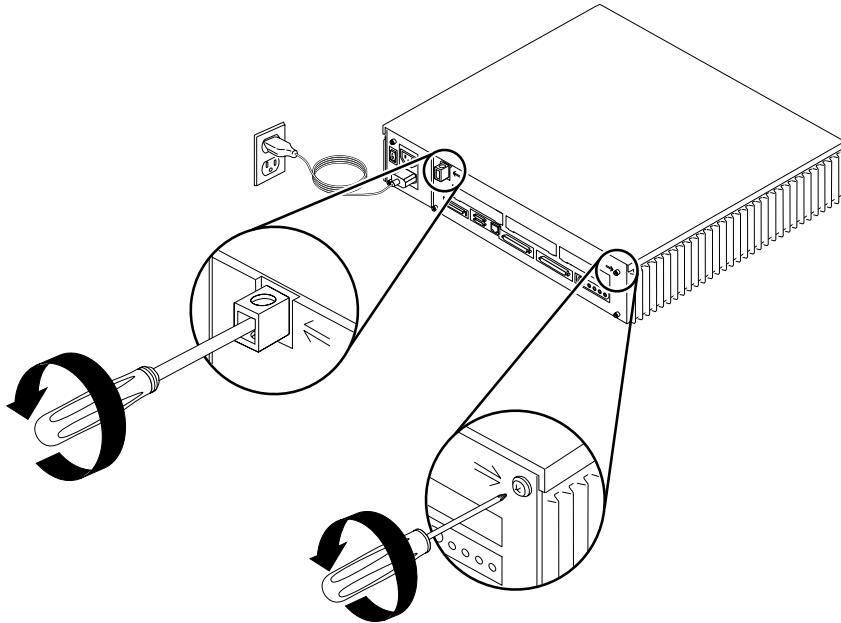

FIGURE 7-1 Removing the Rear Panel Cover Screws
2. Loosen the captive Phillips-head screw in the upper-right corner of the rear panel (see FIGURE 7-1).
3. Unscrew the Phillips-head screw that secures the lock block to the cover. Remove the lock block and put it aside (see FIGURE 7-1).